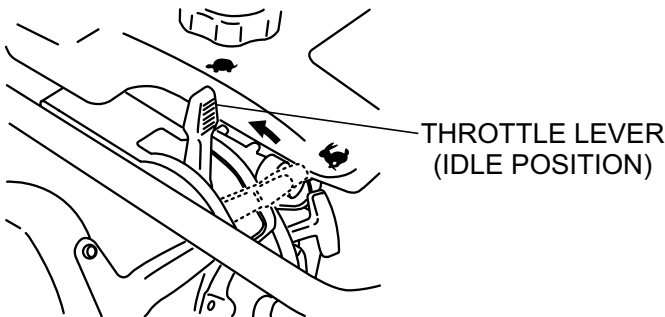
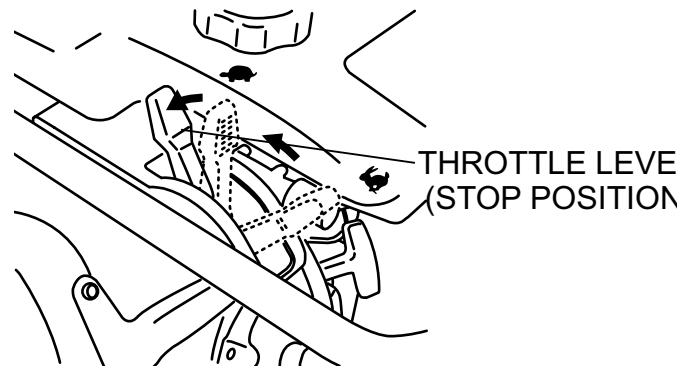

Figure 9. Throttle Lever (Idle Position)
Figure 15. Throttle Lever (Stop Position)
1. Slide the throttle lever from the stop to the idle position (☛) (Figure 9). This opens the fuel cock and the engine electrical circuit is turned on automatically.
3. To stop the tamping action, move throttle lever quickly from the **START** (👉) position to the **IDLE** (👈) position (Figure 9).
1. Move throttle lever quickly from the **START** (👉) position to the **IDLE** (👈) position (Figure 9) and run the engine for three minutes at low speed. After the engine **cools**, move the throttle lever to the **STOP** position (Figure 15). The engine will stop and the fuel cock is automatically closed.